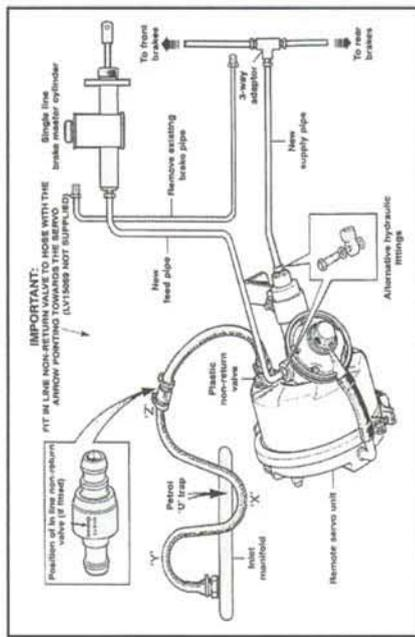

Fig.4 Schematic layout of brake servo unit and relative components
Additional pipe clips are available where necessary. On some vehicles where space is limited, it will be helpful to use banjo and bolt fittings in the tappings of the servo slave cylinder to avoid severe bends in the brake pipe (See fig 4)
**In a convenient position, preferably at the highest point in the vacuum hose run, an in-line non-return valve is advisable on high performance vehicles.** Cut the hose and connect up the two sections to the valve unit. Secure with hose clips supplied. Ensure that when fitted, the arrow on the non-return valve is pointing towards the servo. (See fig 4)
It is essential the vacuum hose inclines downwards from the servo and that the 'U' trap is formed below the level of the servo and the in-line non-return valve where fitted. i.e. by looping it between the inlet manifold and non-return valve so that point 'X' is lower than points 'Y' and 'Z' as shown (see fig 4). Where the